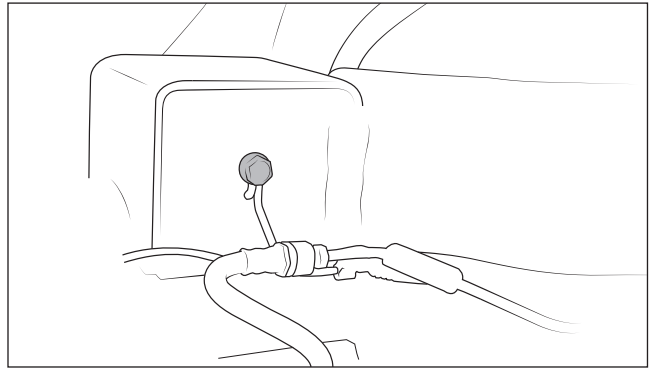

Figure 7
13. Remove the left side brake line bolt at the axle (fig. 7).